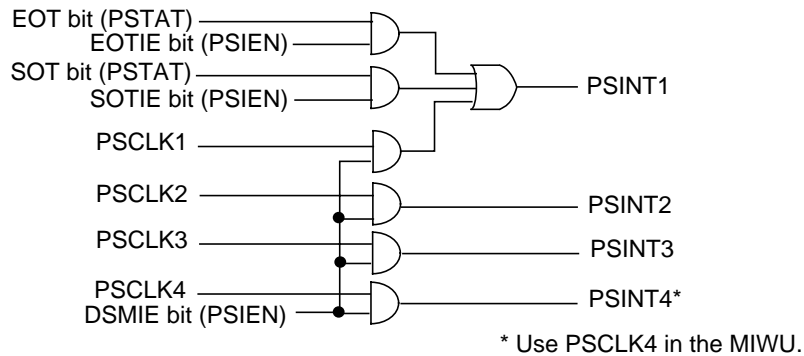

**Figure 39. Quasi-Bidirectional Buffer**
The quasi-bidirectional drivers have an open-drain output (Q2), an internal pull-up (Q3) and a low-impedance pull-up(Q1). Q2 pulls the signal low whenever the output buffer data is "0". The weak pull-up (Q3) is active whenever the output buffer data is "1" and WPUEN in PSCON register is set (1). The low impedance pull-up is active whenever the PC87591x changes the output data buffer from "0" to "1", thereby reducing the low-to-high transition time. The length of time that the low-impedance pull-up is active is determined by HDRV field in PSCON register. A schematic description of this output driver appears in Figure 39.